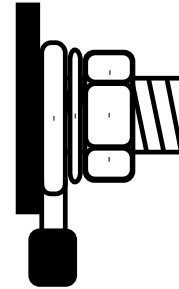

Figure 5 DC Cable Connections
Refer to Figure 5.
11. Install the lock washer and nut that are supplied with the inverter. Tighten the nut to a torque of 108–120 in-lbf (12.2–13.6 N-m). Make the connection snug enough so the ring terminal does not move around on the DC terminal, but do not overtighten. See Figure 5, “DC Cable Connections” on page 23.